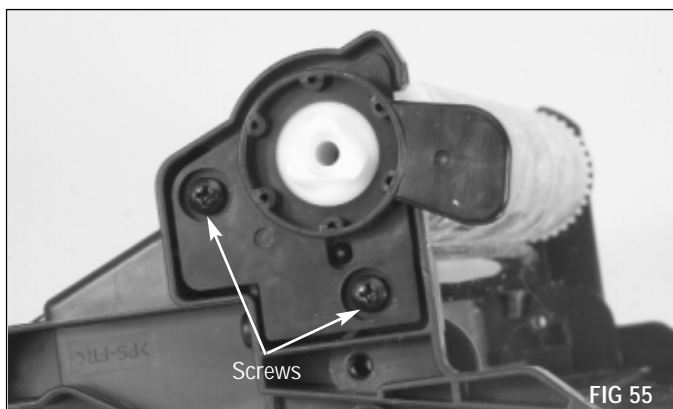

FIG 55
- 13.** Install the waste bin bearing plate. Note the orientation of the plate; secure the plate to the waste bin with the two screws (FIG 55).